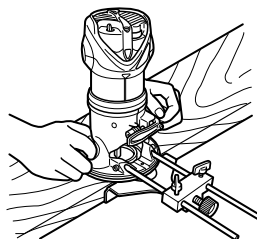

Fig. 14
- ④ As shown in Fig. 14, securely attach the bottom of the base to processed surface of the materials. Feed the router while keeping the guide plane on the surface of the materials.